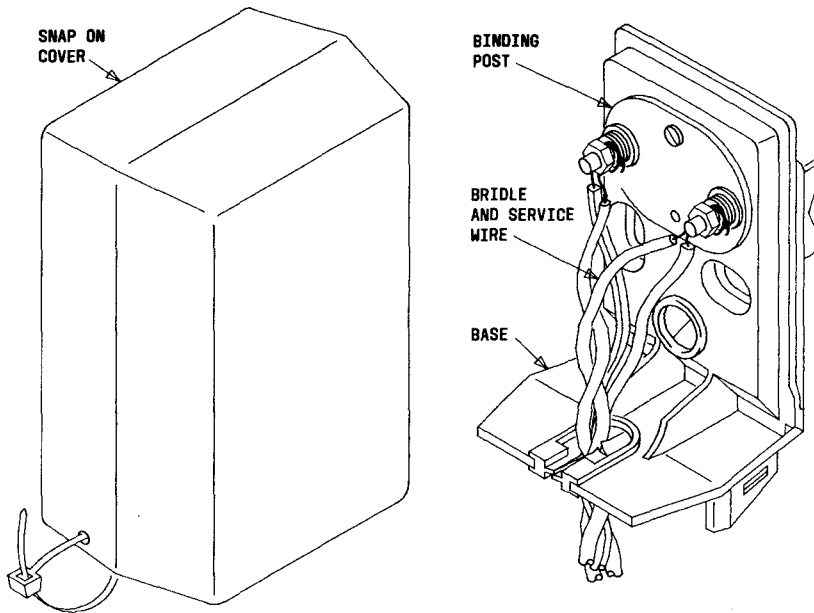

Fig. 2—101C Wire Terminal
2.04 The 101C wire terminal is shown in Fig. 2. The terminal consists of a molded plastic base equipped with two binding posts enclosed in a **B2** customer service closure (Comcode 104052865).